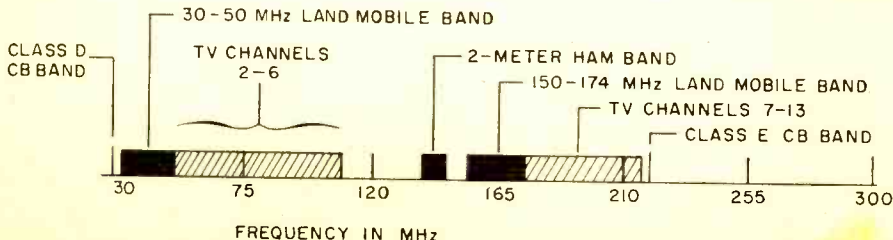

Figure 1. Class E CBers won't be bothered as much QRN or skip as Class D CBers.
**Where the Band Is.** The proposed Class E band is in the VHF portion of the radio spectrum. Fig. 1 shows that the band is 4